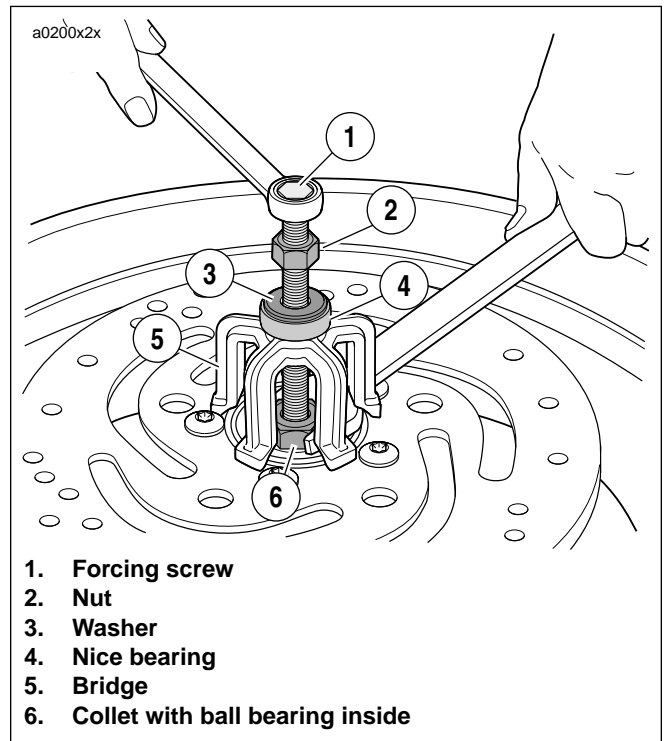

**Figure 2-13. Wheel Bearing Inspection
2. See Figure 2-13. Mount a magnetic base dial indicator to the brake disc with the dial's contact point on the end of the axle.